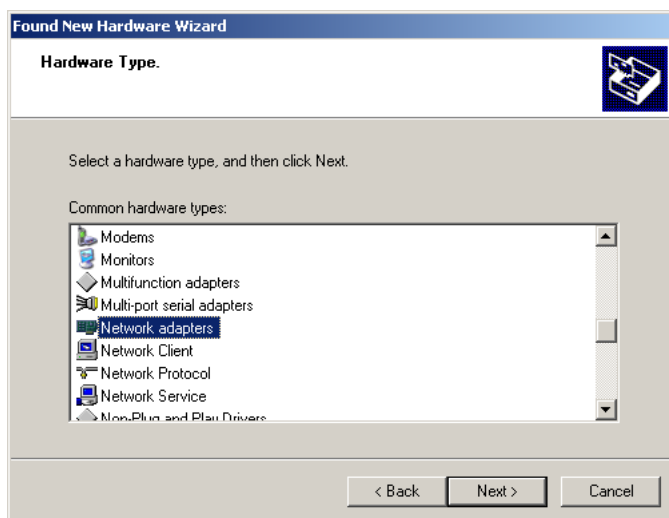

Figure 8. Found New Hardware Wizard – Hardware Type Window
3. Select **Don't search. I will choose the driver to install.** and click **Next**. The Found New Hardware Wizard – Hardware Type window opens (see Figure 8).